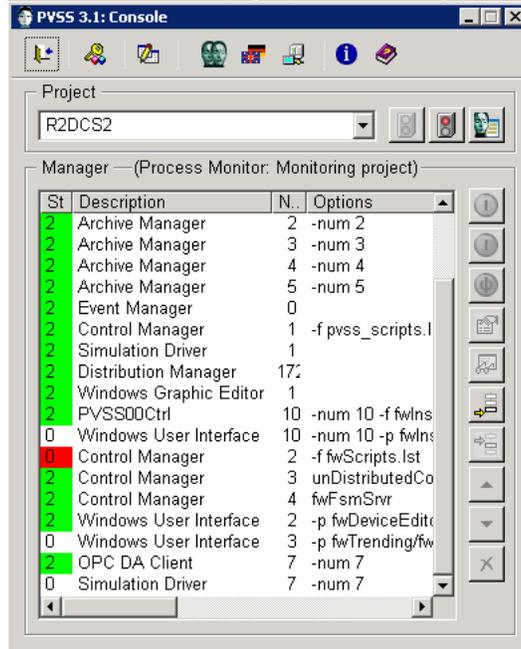

Fig 1.
1. Run the PVSS II Project Administrator (fig 1). It normally runs on “Ibh6lx01.cern.ch”.